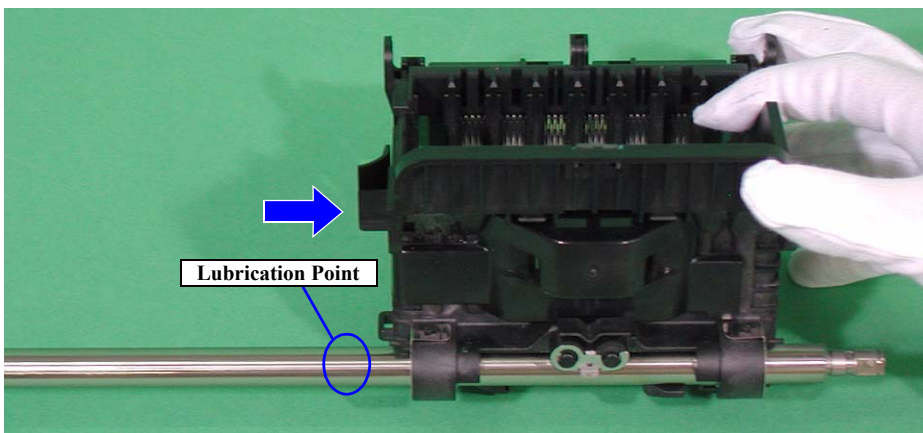

Figure 6-16. Carriage Shaft lubrication (3)
4. Move the Carriage Unit to the right end of the Carriage Shaft viewing the Unit from the rear, and lubricate the grease using a syringe at the point shown in *Figure 6-16*.